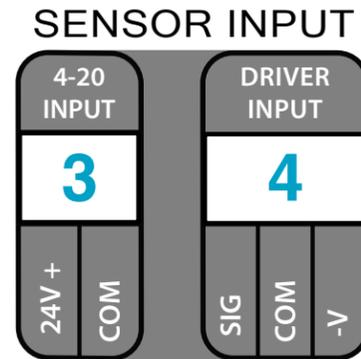

Figure 43
- b. Connect the sensor to the **4–20 Input** (labeled "3" in *Figure 43*):